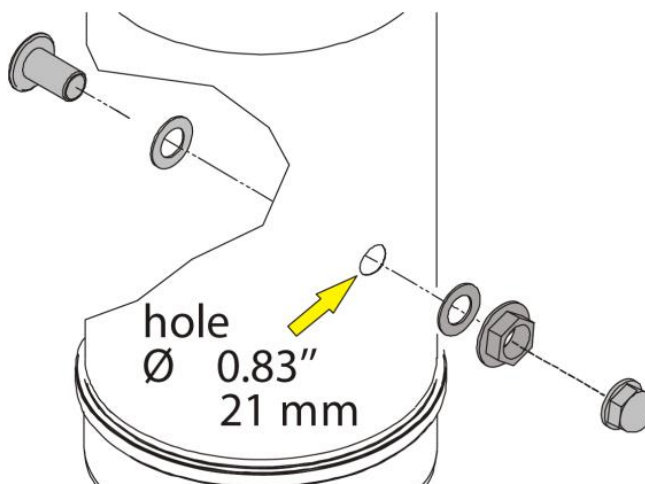

Figure 4-22: Installation of Test Nipple into Flue Manifold Piping
To assemble the flue manifold to the boiler flue exhaust opening, retrieve the six (6) nuts and washers from the plastic bag, shipped with the boiler, and affix to the boiler opening per Figure 4-22. The Manifold may be installed on the left, front, or rear. If switching to left or rear positions, the unused outlet should be covered with the plate and gasket removed from outlet being used.
A test nipple, for measuring combustion gases, should be installed onto the first three feet of the exhaust manifold flue. To do this, a hole with a diameter of 0.83" is drilled in a convenient location for testing and the test nipple hardware assembled to the flue pipe, as shown in Figure 4-22.